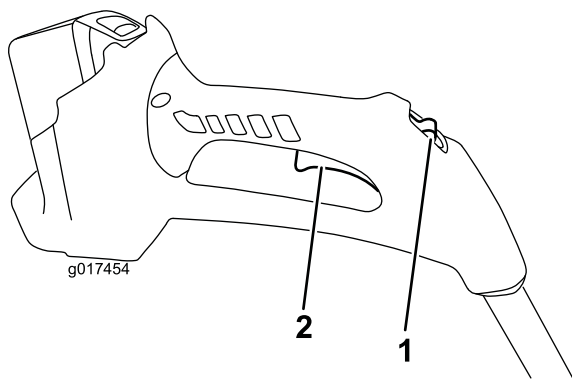

Figure 8
4. Slide the lock switch back to the On position, then squeeze the trigger (Figure 8).